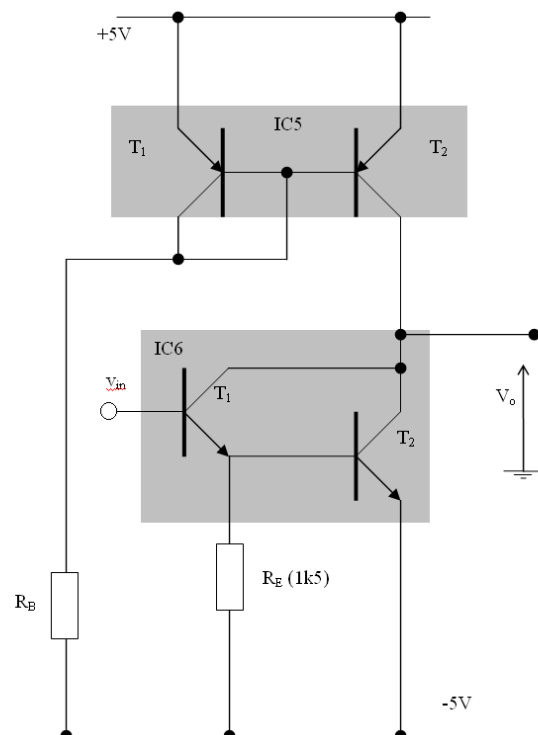
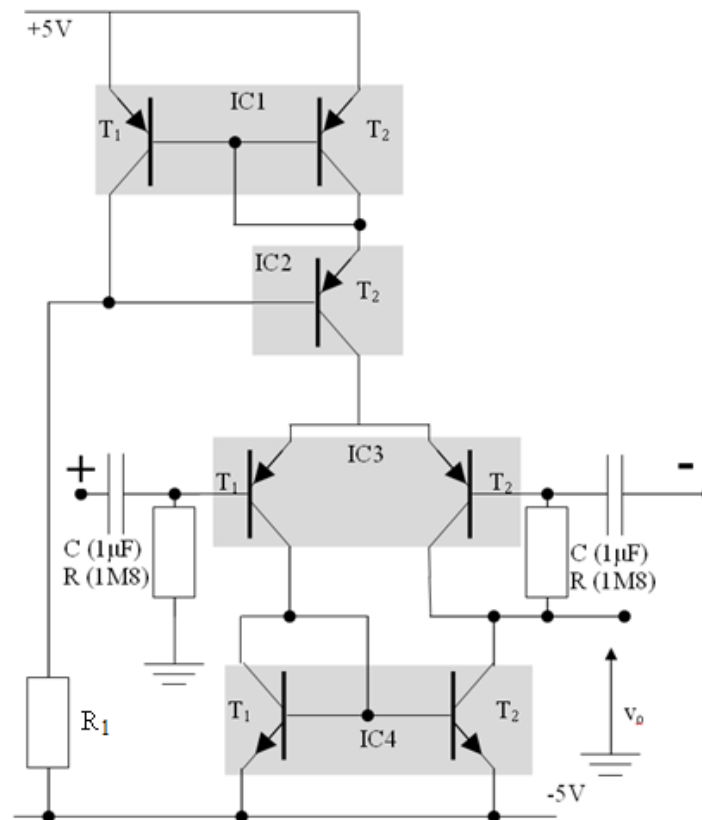
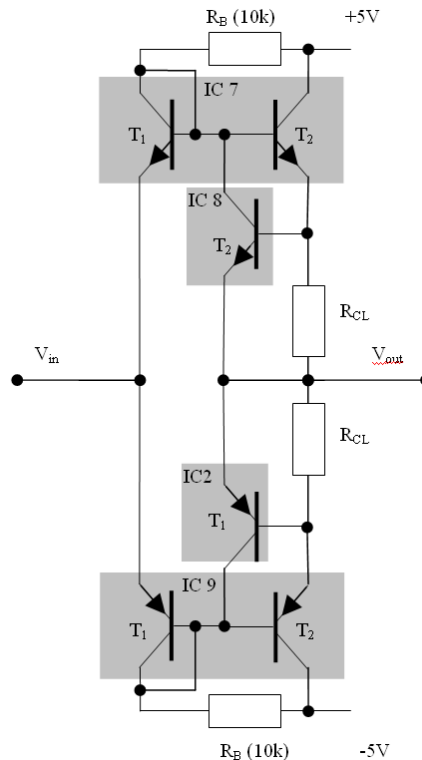

Figure 10 Darlington connection, with active load
Figure 13 Complete input stage
Figure 16 Current limiting circuit
The Darlington connection is shown in Figure 10, replacing the single CE transistor $T_{2(6)}$ (hence we can keep the same old value of R_B).
In the high voltage gain circuit (Figure 13), the simple current mirror (met earlier in section 5, but now in NPN format) performs two functions:
Consider the top half of the power amplifier (Figure 16): when $T_{2(7)}$ is active and conducting current through the load, $T_{2(8)}$ will remain off. $T_{2(8)}$ will only come on when the current through resistor R_{CL} is sufficient to cause a voltage drop of greater than about 0.6V, and hence forward bias $T_{2(8)}$. $T_{2(8)}$ will conduct and 'rob' current from the base of $T_{2(7)}$. The load current will thus remain fixed at approximately $0.6/R_{CL}$. This is the output current limit of the amplifier and is set by resistor R_{CL} .
So far you have been exposed to some of the basic analogue building blocks. We shall now see how these blocks can be arranged and connected together to form a complete op-amp. Block (1) is the differential input amplifier (see Figure 13). Block (2) is the high gain single-stage amplifier (see Figure 10), and block (3) is the output stage power amplifier (Figure 16). Before we connect the blocks together there are certain biasing components to be removed, as these were only required for stand-alone testing.
- i. In Block (1) (Figure 13) remove the two 100k resistors and the input capacitors ($1\mu\text{F}$).
- ii. In Block (3) (Figure 16) remove the two R_B 's (10k).
- iii. Connect the output of Block (1) to the input of Block (2) (V_{o1} to V_{in2}). This creates the very high differential gain stage of the op-amp.